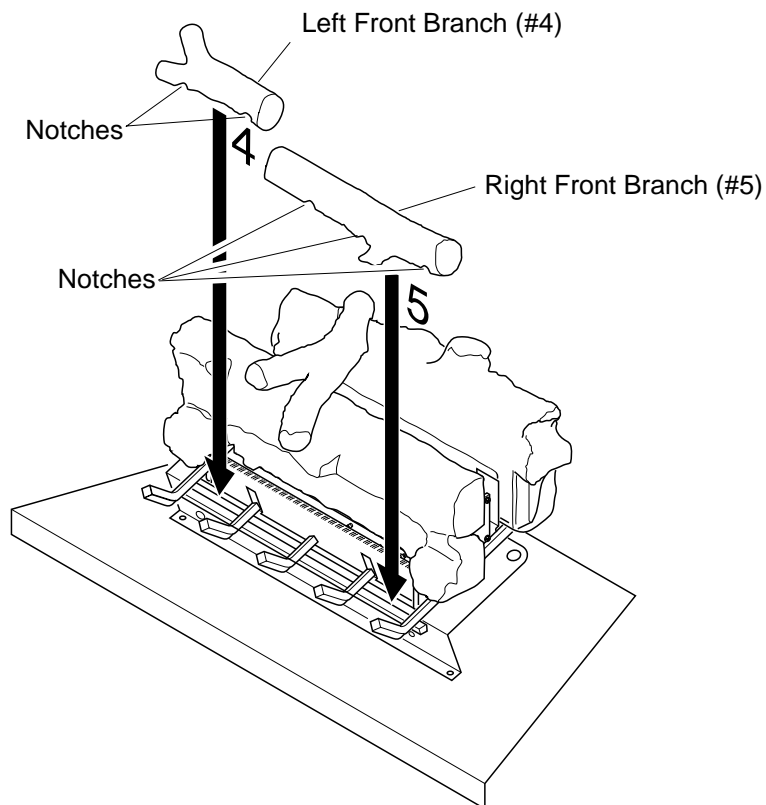

Figure 24 - Installing Left Front Branch and Right Front Branch
- Place left front branch (#4) and right front branch (#5) into place (see Figure 24). Make sure notches on bottom rest on grates.